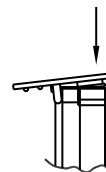

Figure 9
9. Tap downward on cap to fully secure and lock cap in place on the power center. (Figure 9)